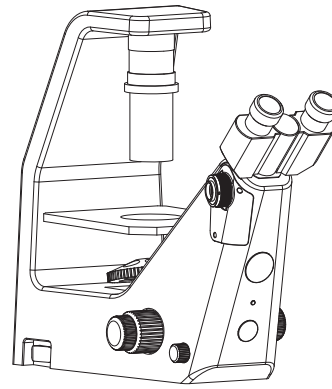

Figure 6
- 3) Fix the 0.43X optical interface on the microscope with a 2.5mm Allen key and manufacturer's special supply screws, the position and direction are shown in Figure 6;